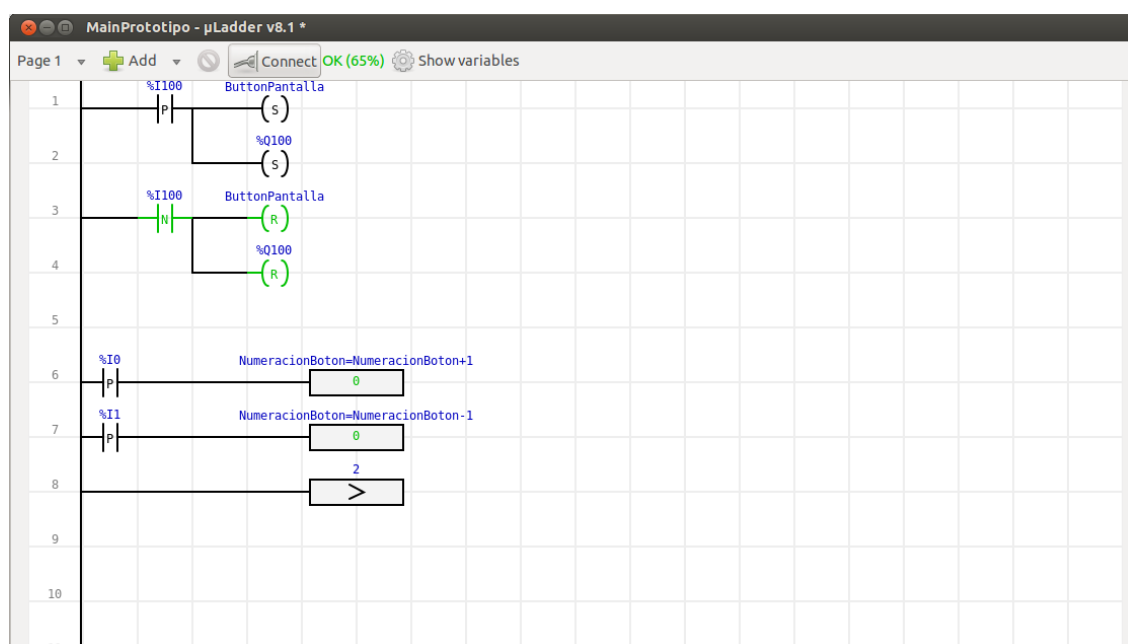

Figure 10. Screen capture of the MicroLADDER main window with the PLC connected and communicating.
- Active instructions of the program appears painted in green as well (See Figure 10).